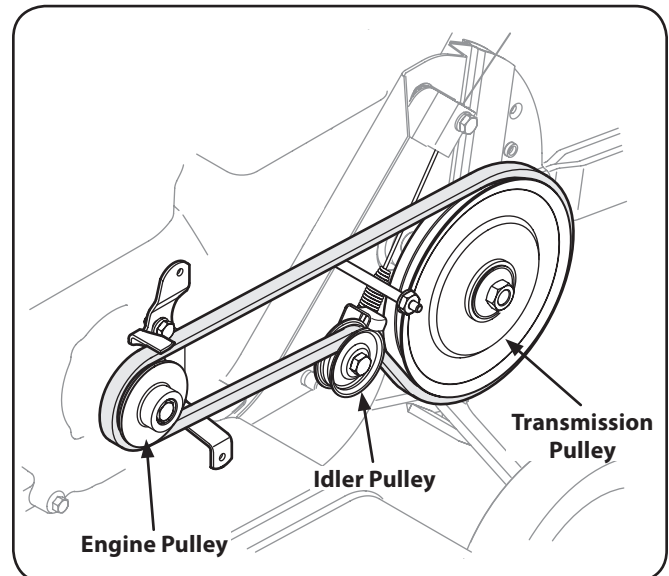

Figure 7-4
6. To install the new belt, follow the instructions in reverse order and refer to Figure 7-4. Be sure to place the wider side of the belt away from the engine and transmission pulleys.
NOTE: Upon reassembly, make certain that the idler pulley keeper is as shown in Figure 7-4. Take note of the notch on the bottom of the keeper and the alignment when reassembling with the replacement belt.